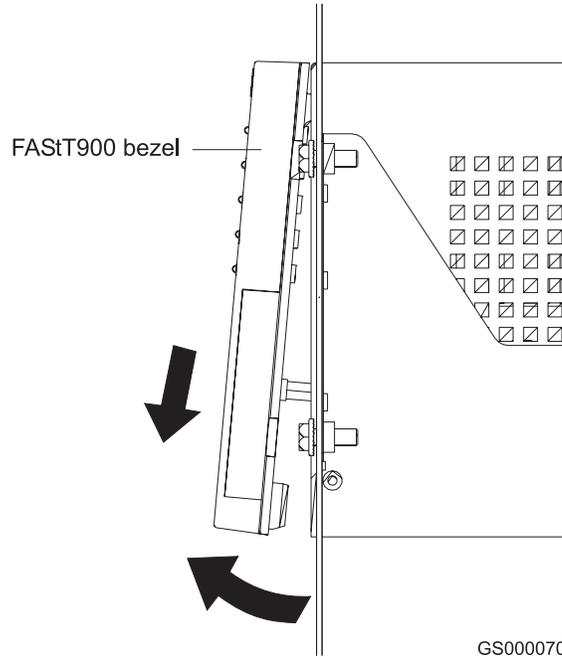

Figure 21. Removing the DS4500 Storage Server bezel
To access the controller blades, battery, storage server fan, and indicator lights, you must remove the DS4500 Storage Server bezel, as shown in Figure 21 on page 21.
1. Carefully pull the bottom of the bezel out to release the pins. Then slide the bezel down as shown in Figure 21.
Note: To view the RAID controller indicator lights, remove the DS4500 Storage Server bezel, as shown in Figure 21 on page 21.
Note: To view the battery indicator lights, remove the DS4500 Storage Server bezel, as shown in Figure 21 on page 21.